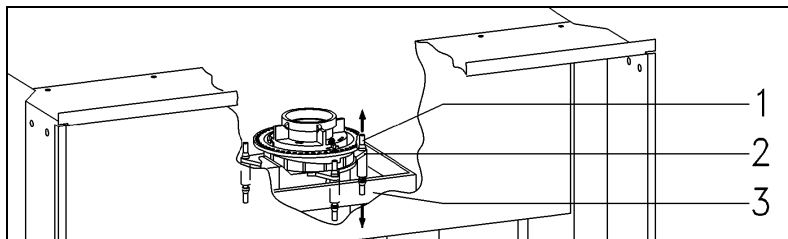

Figure 5-51: Grinder Coupling
12. Lift the grinder upwards from the dampers (see Figure 5-51, Item 2).